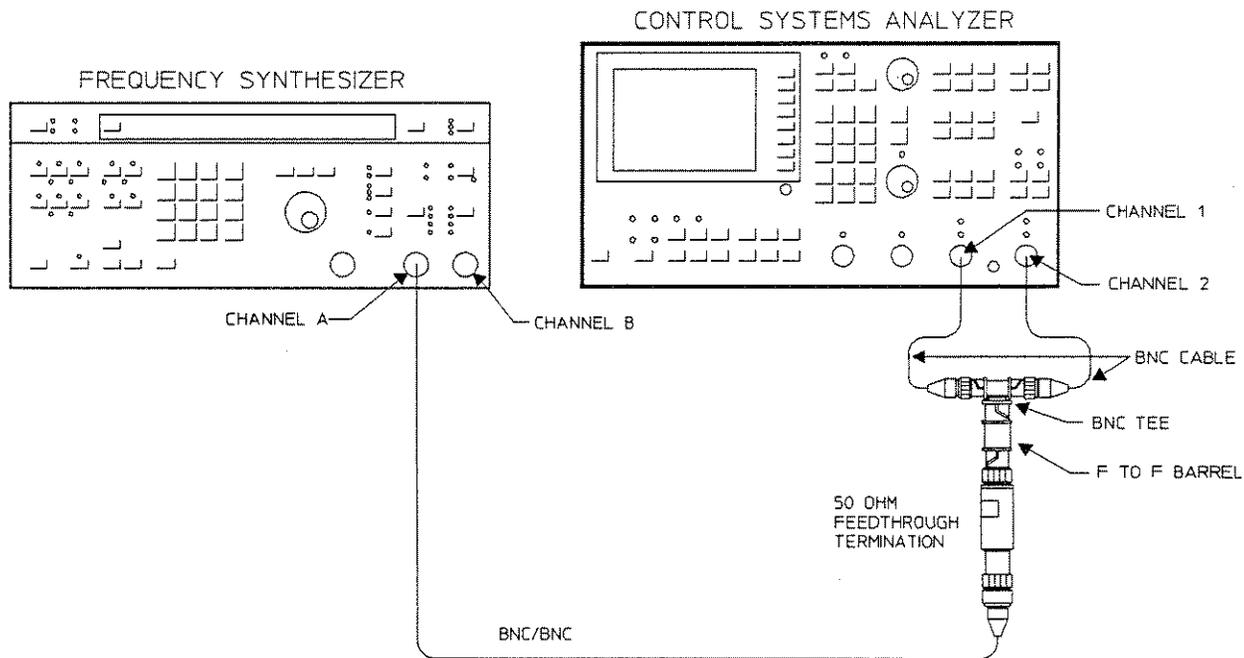

Figure 4-10. Input Coupling Insertion Loss Test Setup
1. Connect the test equipment as shown in Figure 4-10.